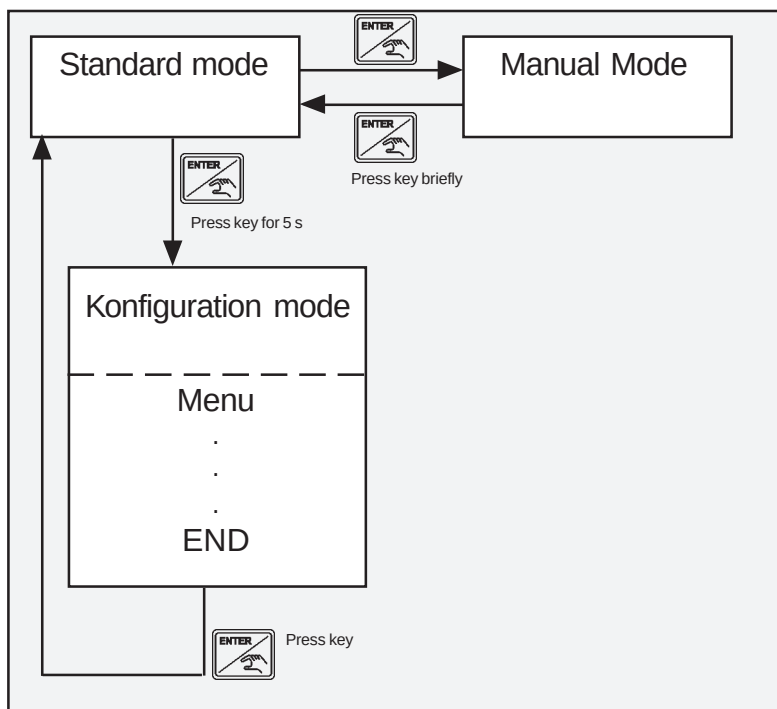

Fig. 6: Switching between the operating modes
- Change to other modes is done with the actions shown in Fig. 6.